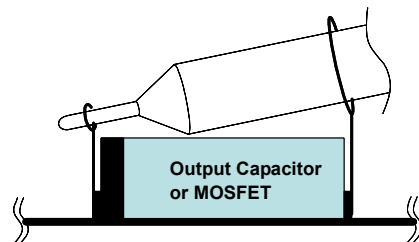
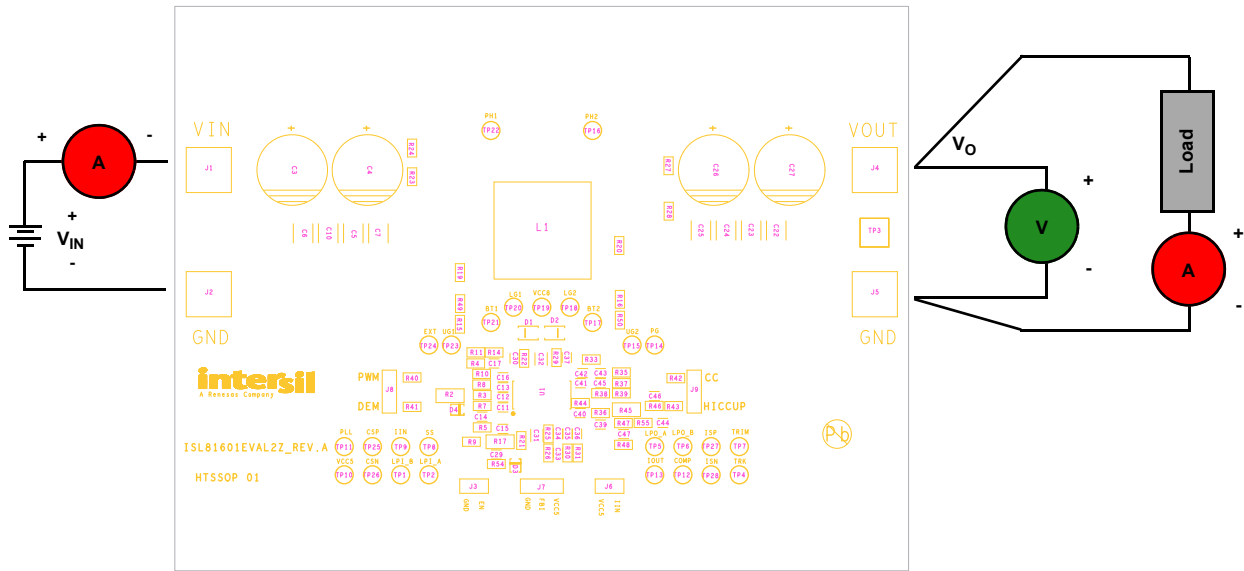

Figure 3. Proper Probe Set-Up to Measure Output Ripple and Phase Node Ringing
Figure 4. Proper Test Setup
As shown in Figure 4 on page 6, 32V to 60V V_{IN} is supplied to J1 (+) and J2 (-). The regulated 48V output on J4 (+) and J5 (-) can supply up to 5A to the load. Due to the high power efficiency, the evaluation board can run at 5A continuously without airflow at room temperature ambient conditions.
- (1) Jumper J8 provides the option to select PWM or DEM. Jumper J9 provides the option to select Constant current limit or HICCUP. Refer to Table 2 for the operating options. Ensure that the circuit is correctly connected to the supply and electronic loads prior to applying any power. Refer to Figure 4 on page 6 for proper setup.
- (2) Turn on the power supply.
- (3) Adjust input voltage V_{IN} within the specified range and observe the output voltage. The output voltage variation should be within 3%.
- (4) Adjust the load current within the specified range and observe the output voltage. The output voltage variation should be within 3%.
- (5) Use an oscilloscope to observe output voltage ripple and phase node ringing. For accurate measurement, refer to Figure 3 for proper test setup.